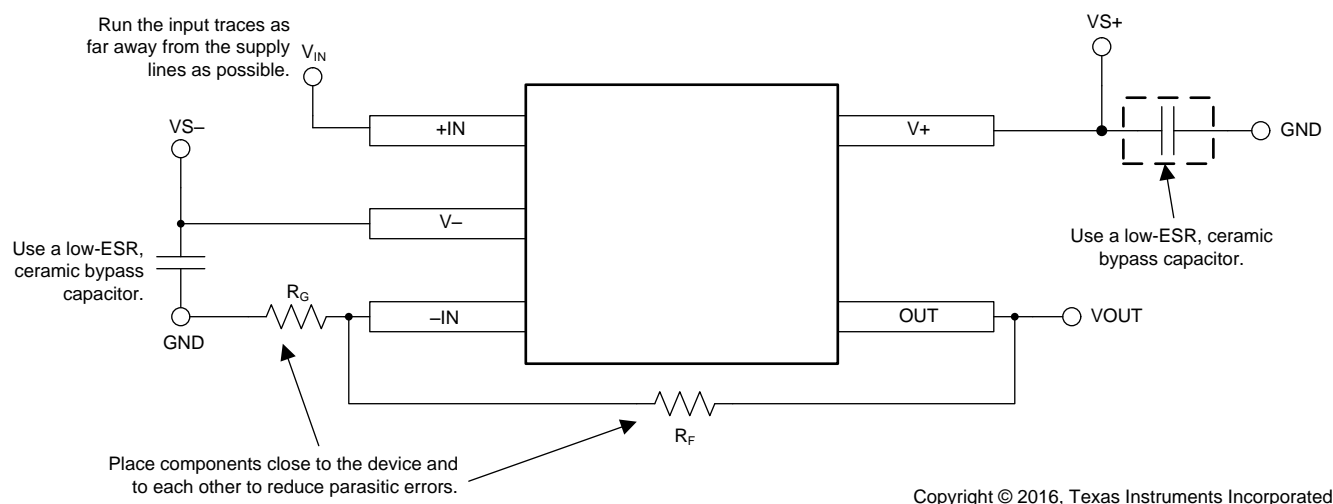

Figure 19. Operational Amplifier Board Layout for Noninverting Configuration
- Place the external components as close to the device as possible. Keep R_F and R_G close to the inverting input in order to minimize parasitic capacitance, as shown in Figure 19.